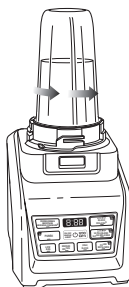

Fig. 5
- 8 Once you have reached your desired consistency, stop the appliance by pressing the power button and wait for the blade to stop turning. Turn the Nutri Ninja cup counter-clockwise and pull straight up to remove. (Fig. 5, Fig. 6)